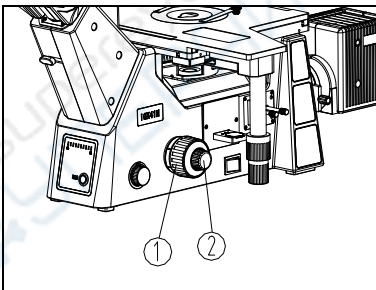

Fig. 16
(1) Place the sample on the stage , move the objective 5X/10X into the light path.
(2) Adjust the right diopter adjustment ring to “0” , (see 3-6 Adjust diopter), Observe the right eyepiece by the right eye. Turn the coarse focus knob ① and the fine focus knob ② to focus the specimen.(Fig. 16)
(3) Turning the fine focus knob ② to make image clear.